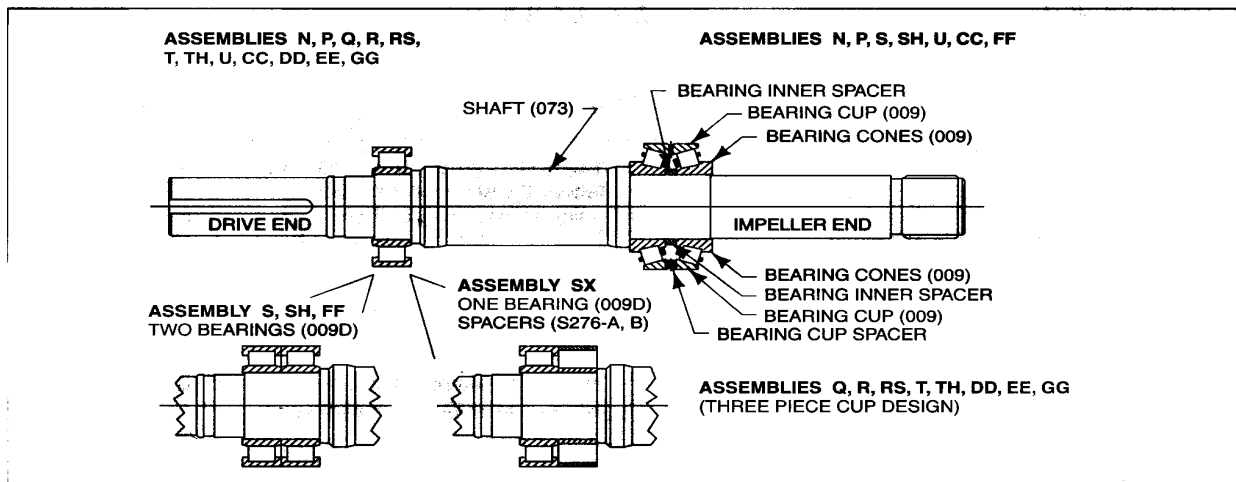

Figure 3-1 • Fitting Drive and Impeller End Bearing Assemblies
The information provided in this section pertains to bearing assemblies built from 1976 to present. See *Figure 3-1* for bearing configuration.
**FITTING OF DRIVE END INNER RING BEARING AND IMPELLER END BEARING (Figure 3-1)**
1. Inspect the bearing journals of the shaft (073) for burrs, removing any with fine emery cloth before proceeding. Apply oil or light grease to the journals.
4. Turn shaft end for end (impeller end up). Fit one cone of BEARING (009) with large diameter against shaft shoulder as shown in Figure 3-1.
Fit the cone spacer of BEARING (009) on the shaft against smaller end of cone as shown in Figure 3-1. For bearing assemblies using a one piece cup, check for the correct match number, if applicable, and fit the cup over the cone. With those having a three piece cup, match the cup to the cone, if applicable, and place over the cone. Follow up with the cup spacer and the remaining cup.
5. Fit the second cone of BEARING (009) on the shaft with the smaller end of the bearing against the spacer. It is important that the cones and spacer are located hard against one another and against the shaft shoulder.